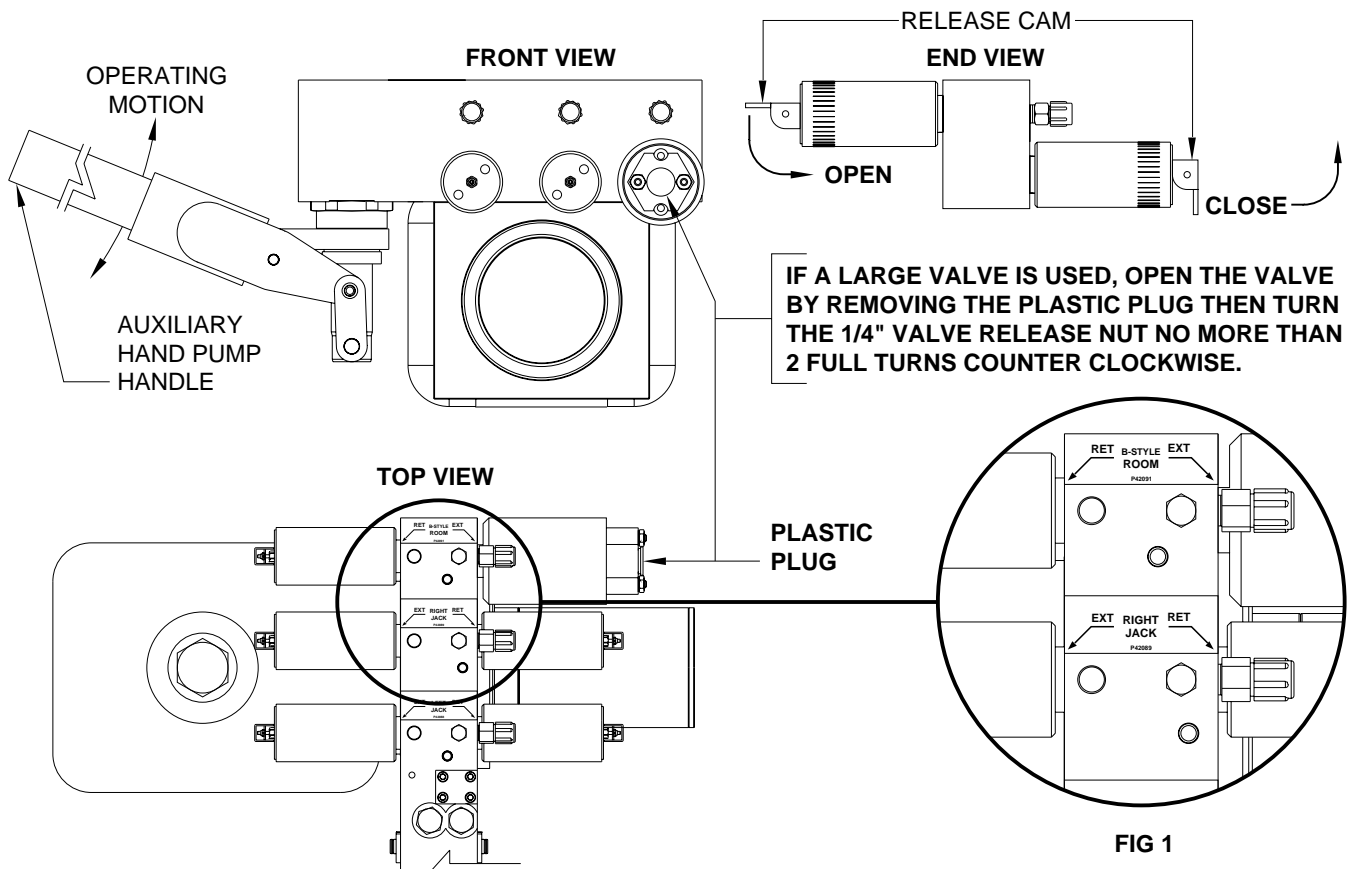

FIG 1
NOTE: Each hydraulic function requires a pair of solenoid valves one each for the extend and retract procedures. The number of functions and the items controlled by each pair of solenoid valves will vary for each system. The diagrams shown on this page represent a (3) function system of (2) jacks and (1) room as indicated by the labels shown in FIG 1. Use the labels specific to your system when following these procedures. Room control solenoid valves may be located at the synchronizing cylinder, not on the pump manifold.